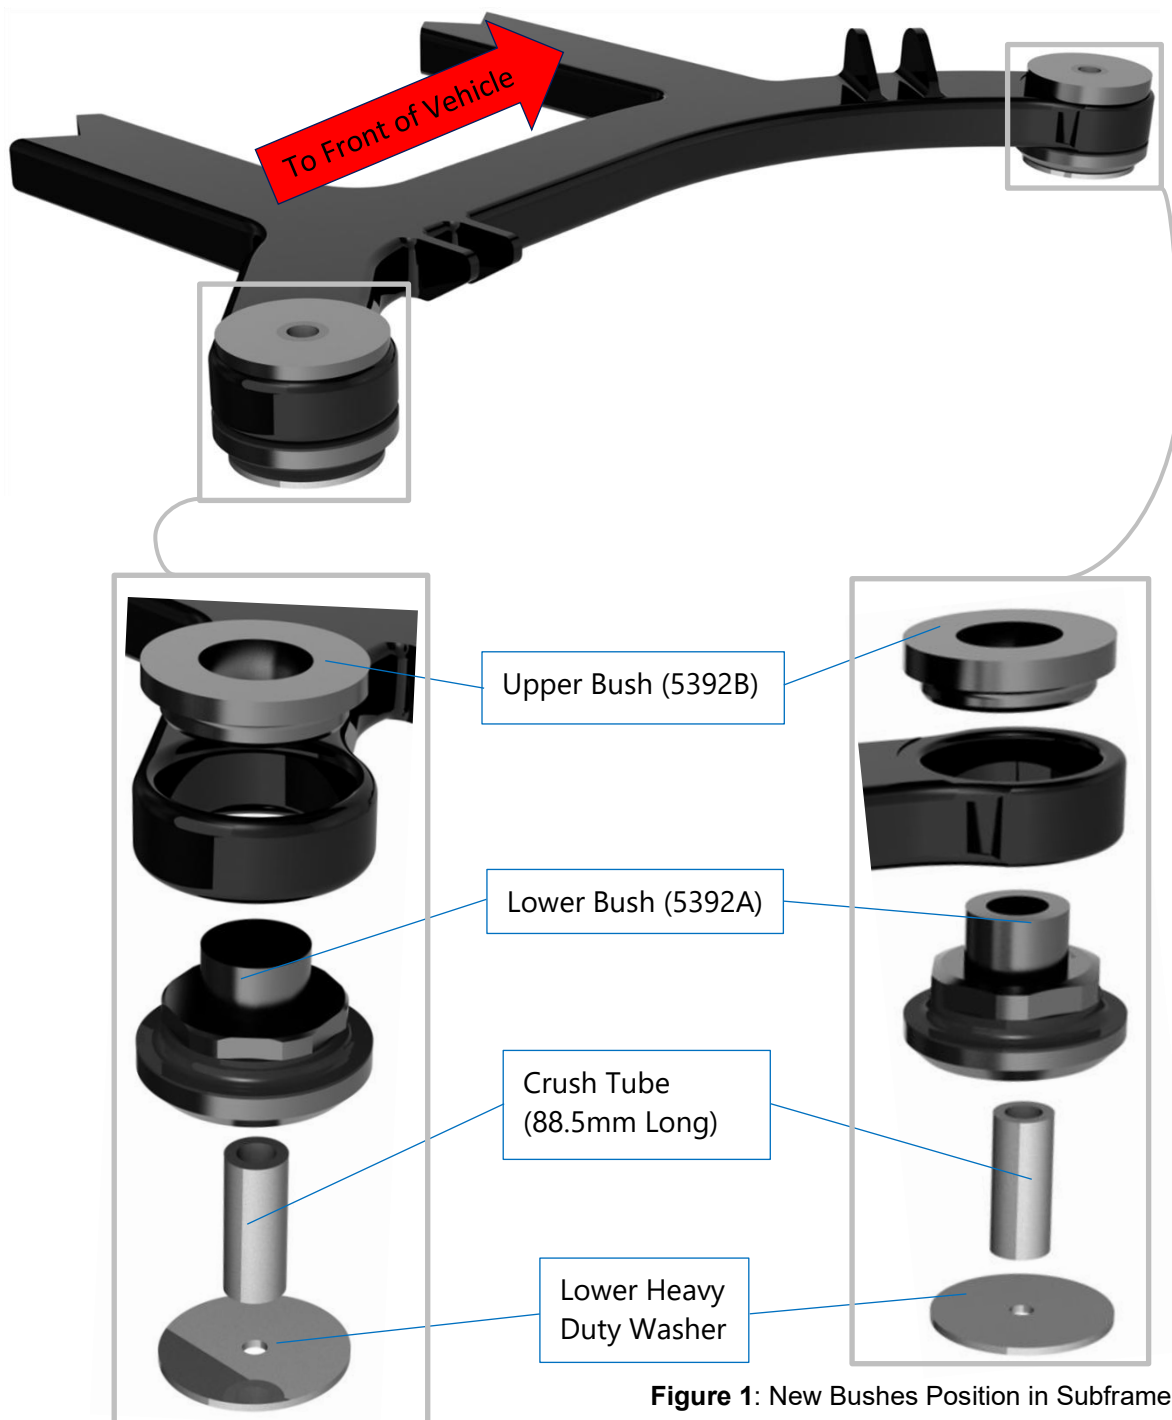

Figure 1: New Bushes Position in Subframe
6. Apply grease supplied onto the housing and install the new polyurethane bushings according to Figure 1.